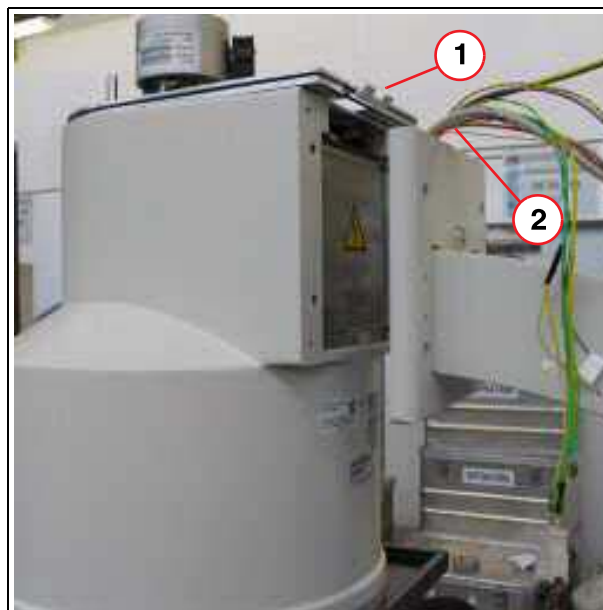

Fig. 22: I.I.\_mount
10. Remove the cable clamp (1/ Fig. 22 / p. 42) and pull out the cables (2/ Fig. 22 / p. 42).